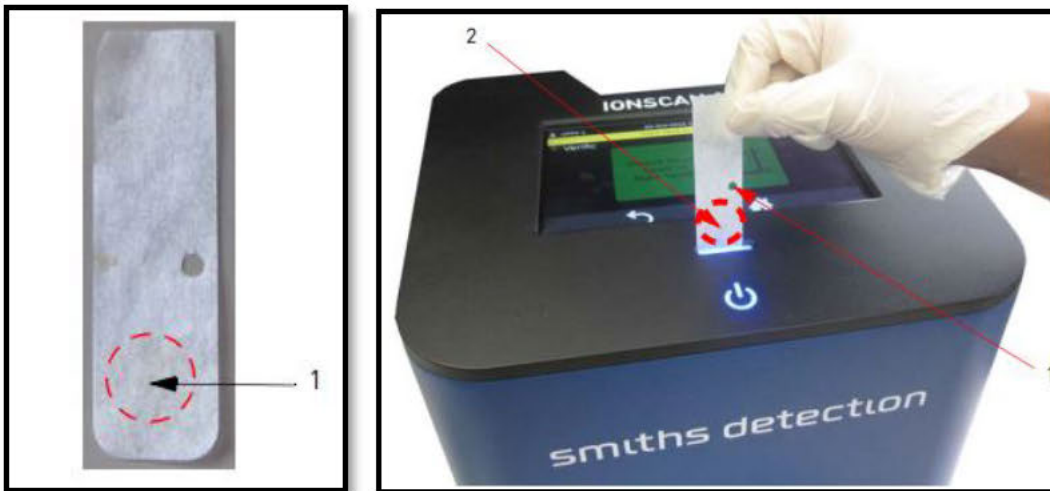

Figure 18a & 18b - 1. “Sample Area” on swab & swab inserted correctly, alignment hole (1.) to the right.
- Remove the verification pen cap and lightly apply a small amount of the verification fluid, no more than a dot, to the “Sample Area” of the swab (see Figure 18a);